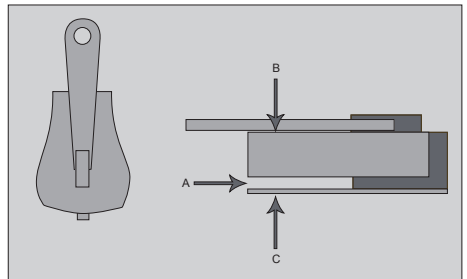

Figure 23
- The most common reason why zips burst open is that the zip slider does not close the coil tightly enough. Wear and tear may cause the gap marked A to open up, as indicated in Figure 23.
- By simply “crimping” the slider together at points B & C with a pair of pliers, this solves the problem most of the time. Crimping in other planes is worth a try if B & C does not work. This is to be done when the zip slider is still attached to the zip in the open position, as indicated in Figure 23.